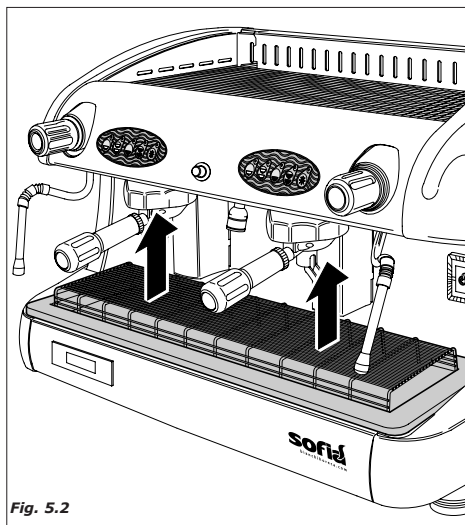
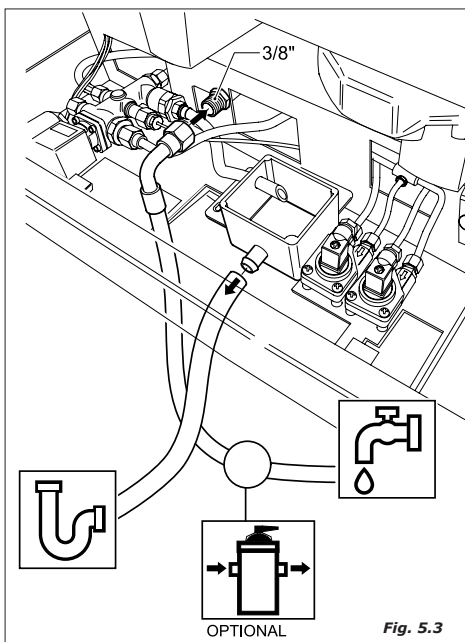

Fig. 5.2
Fig. 5.3
### 5.1.2 Water mains supply (Fig. 5.2 and Fig. 5.3)
- 1 lift the drop collector tray (Fig. 5.2)
- 3 connect up the reticulated tube (on supply in the machine package) to the 3/8" brass bulkhead feed-through (Fig. 5.3)